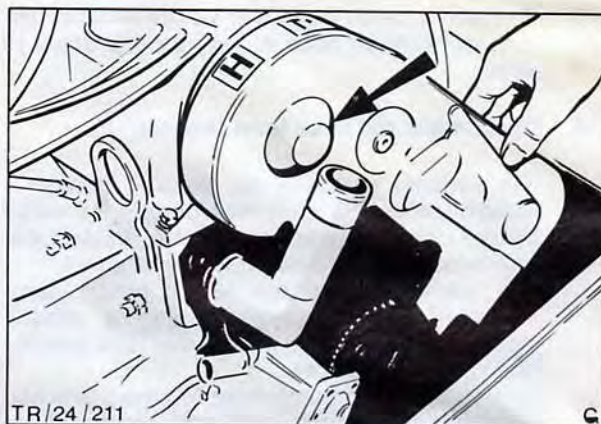

Fig. 9. Timing belt cover as fitted on all OHC variants
6. OHC variants only. Remove timing belt cover, Fig. 9. Secured by three bolts.